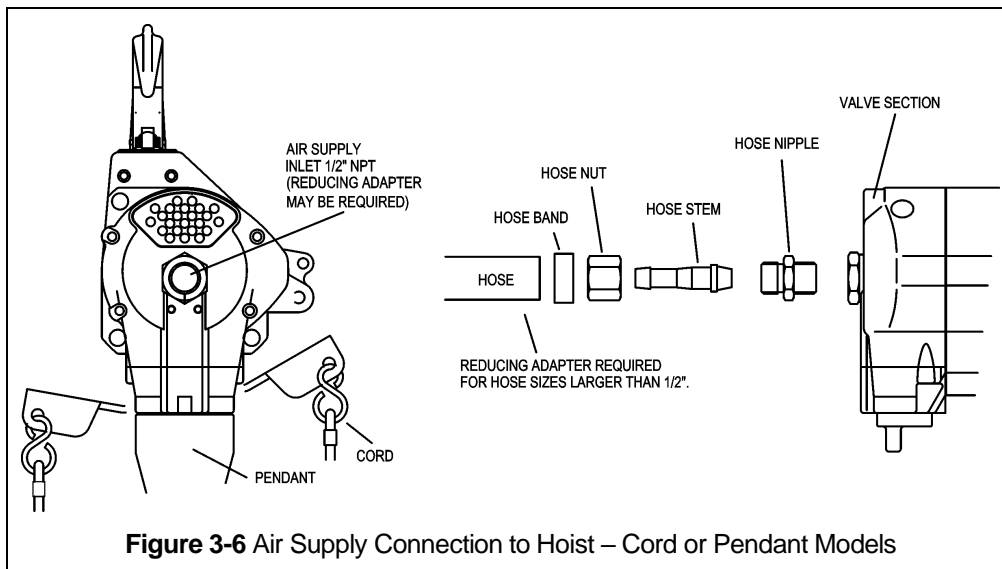

Figure 3-6 Air Supply Connection to Hoist – Cord or Pendant Models
3.9.4 Make connections to air supply; reference Figure 3-6. Use a reducing adapter at the hoist valve section for hose sizes larger than 1/2".